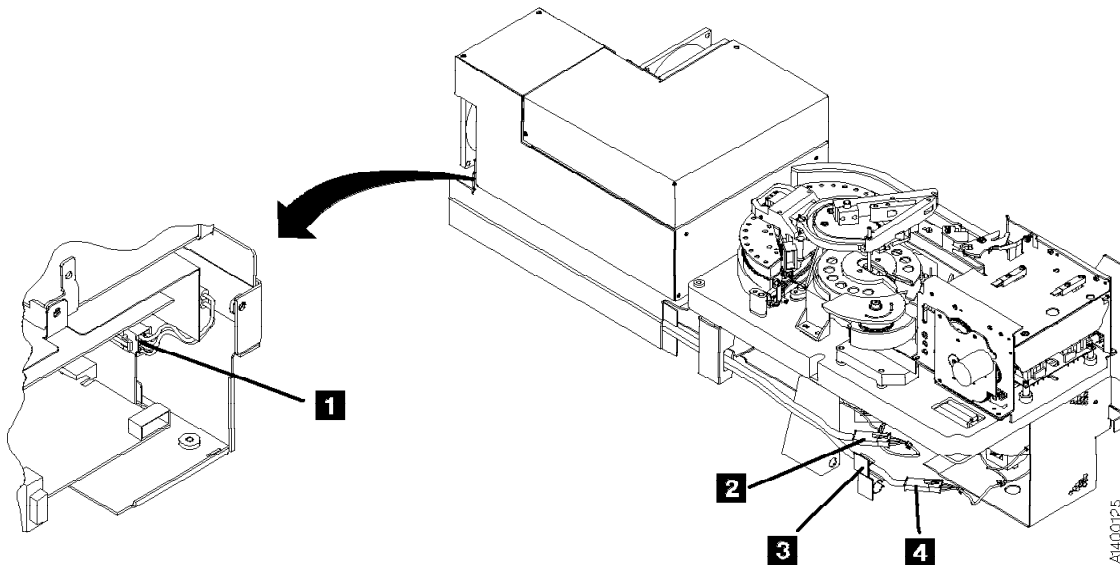

Figure 352. Motors Cable
4. See Figure 352. Disconnect the motor cables at the rear of the drive **1**.